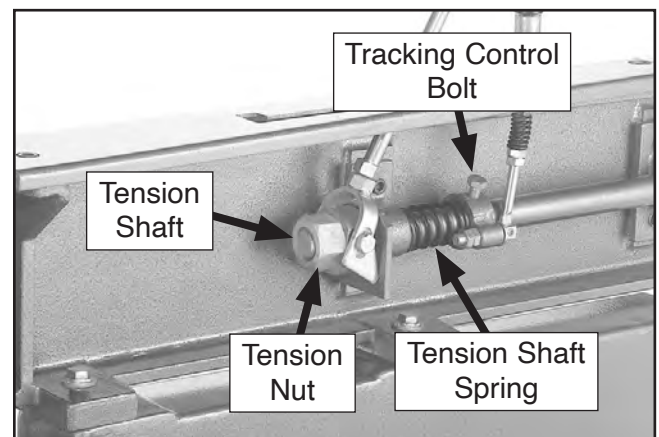

Figure 60. Tension nut flush with tension shaft threads.
7. Rotate tension nut counterclockwise until threads of tension shaft are flush with nut (see **Figure 60**).
8. Loosen tracking control bolt (see **Figure 60**).